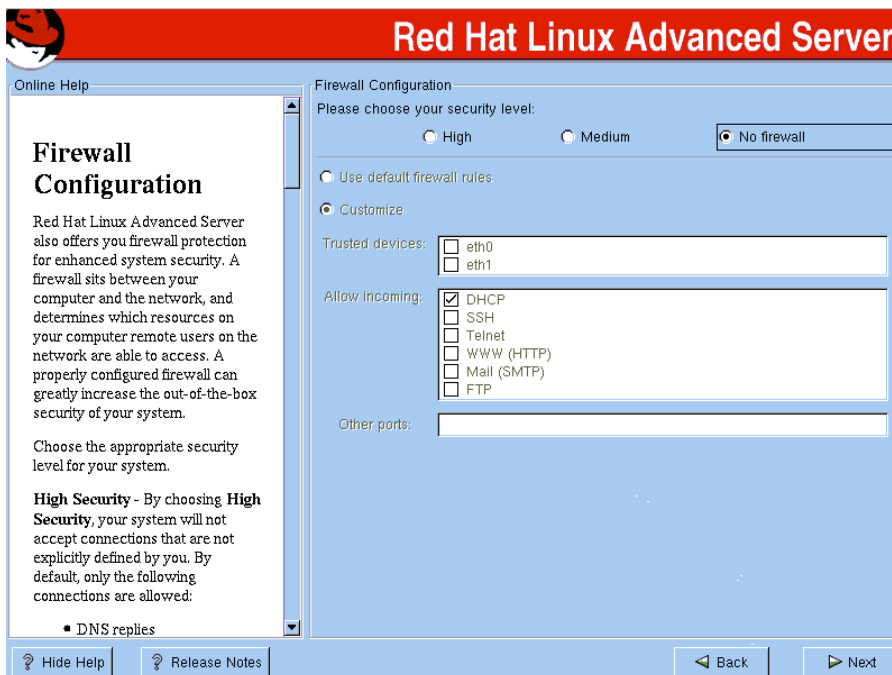

Figure 23. Firewall configuration
- e. On the Firewall Configuration screen, take note of the default selections. Leaving the default settings will interfere with setup activities later on that require network communications. Either configure the firewall at this time, or defer it for later by choosing No firewall. To simplify our installation, we chose No firewall (Figure 23).